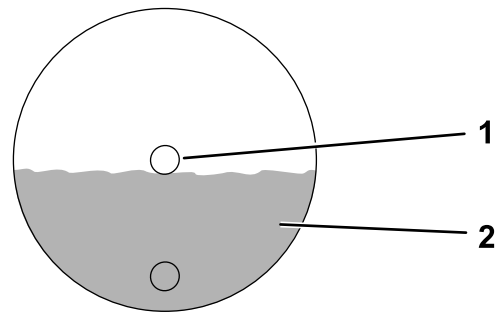

**Figure 67**
2. Park the machine on a level surface so that the drain plug is in the 6 o'clock position (Figure 67), engage the parking brake, and lower the loader arms.
5. Remove the check plug and the drain plug and allow the gear lubricant to drain (Figure 67).
6. Install the drain plug (Figure 67).